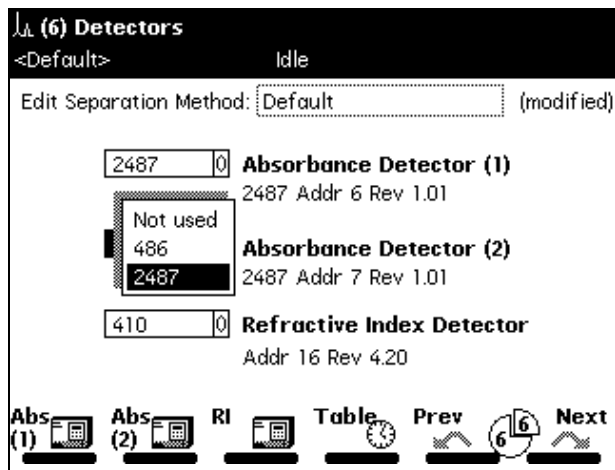

Figure 6-11 Detector Selection Example
3. Use the up/down arrow to highlight your selection (Figure 6-11), then press **Enter** to accept your selection. Table 6-11 describes the selections in the Detectors screen.